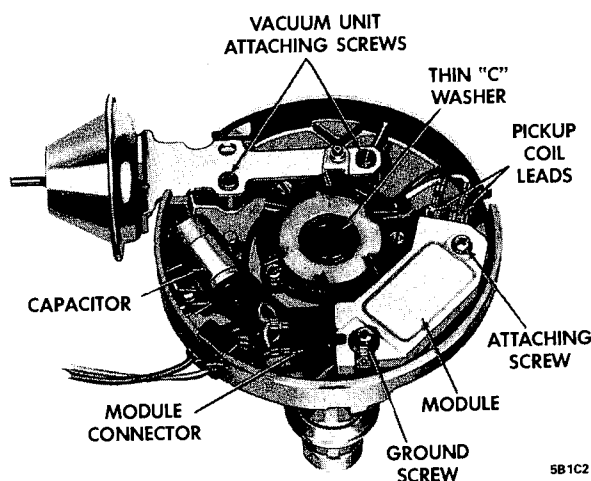

Figure 1C-3 - L6 H.E.I. Distributor Housing
7. Direct timing light beam on engine timing indicator and mark on harmonic balancer. Slowly rotate distributor until mark on harmonic balancer is aligned with specified degree mark on timing indicator. See Figure 1C-4. Refer to specifications section for proper setting.